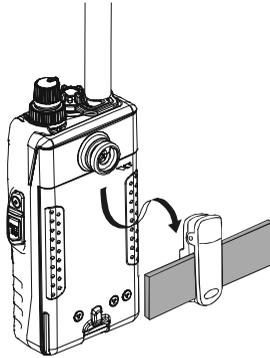

Figure 3
- ❑ To install the **FT-270R** into the Quick-Draw Belt Clip, align the hanger with the Quick-Draw Belt Clip, and slide the **FT-270R** into its slot until a click is heard (Figure 3).